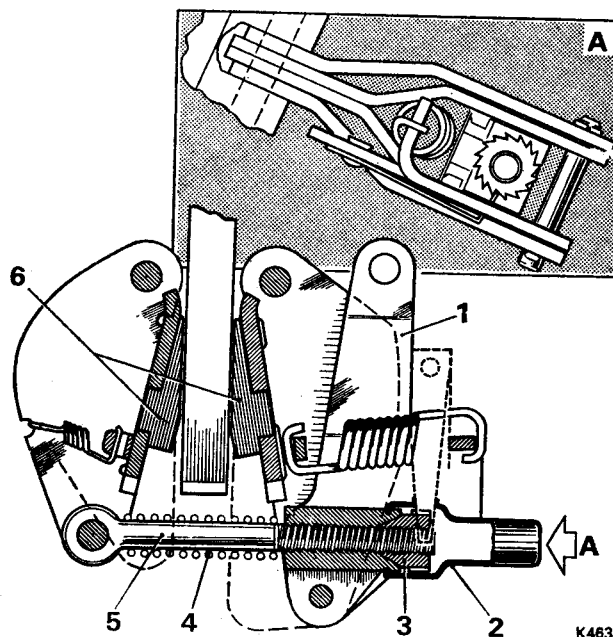

FIG. G63 HAND BRAKE PAD MECHANISM
4. Lever the spring steel adjusting prong away from the rubber boot which covers the ratchet wheel; remove the rubber boot (see Fig. G63).
6. Move the hand brake operating levers away from the disc, giving access to the pads. Each hand brake pad is retained against its abutment face by a coil spring, one of which is larger and thicker than the other (see Fig. G63).